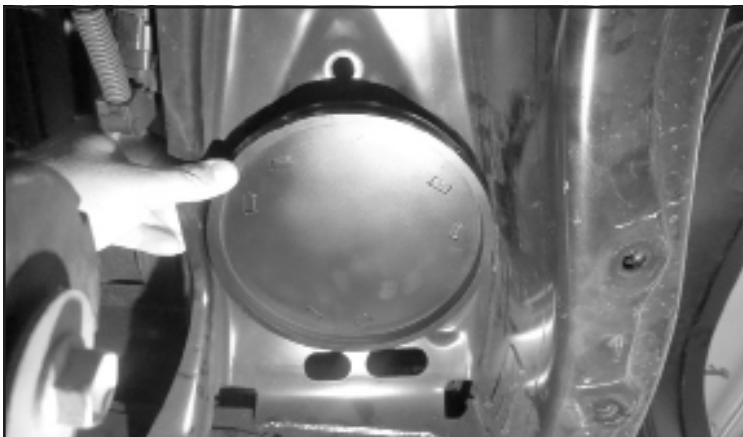

FIGURE 2 - STEP 4
4. Install FT70408 (Rear Spacer) and rubber isolator to the upper coil mounts using the supplied 3/8" nuts and washers. **SEE FIGURE 2**